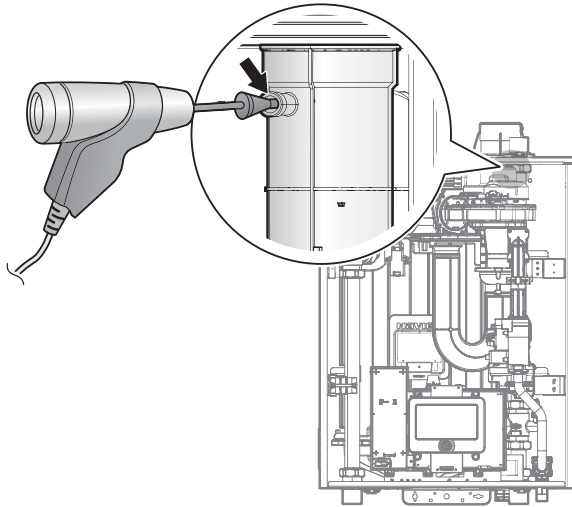

Figure 7. Insert the Analyzer
- a. Loosen the screw, rotate the plate and remove the gasket to access the emissions monitoring port as shown in Figure 7.
- b. Insert the analyzer into the port as shown in Figure 7.